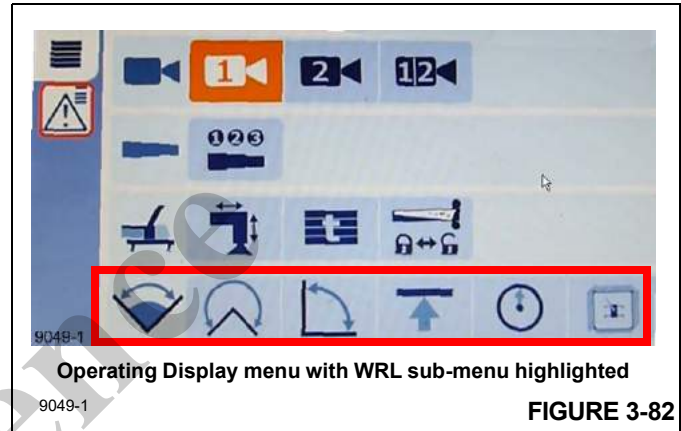

FIGURE 3-82
There is a separate display screen to allow for enabling and setting limitations for the WRL options. The WRL limitations are shown as a group on the main menu screen, each limitation can then be selected to work with that limitation screen. (Figure 3-82) shows the WRL options on the main menu screen.
2. Select the Swing Angle Screen (Figure 3-82) on the Main Menu Screen.
3. Use the Right Arrow function to highlight the switch symbol (3).
5. Use the Right Arrow function to highlight the current swing left position (1). Use an OK button to accept the current crane position to be the limitation value. The limitation value for swing left should now be updated on the screen. **Note** that the boom is now at the limitation, so alarms will sound. The boom can now be moved away from the current swing angle to cease the alarm.
7. Use the Right Arrow function to highlight the current swing right crane position symbol (4). Use an OK button to accept the current crane position to be the limitation value. The limitation value for swing right should now be updated on the screen. Again, note that the boom is now at the limitation, so alarms will sound. The boom can
2. Select the Boom elevation limits menu screen (Figure 3-82) on the Main Menu Screen.